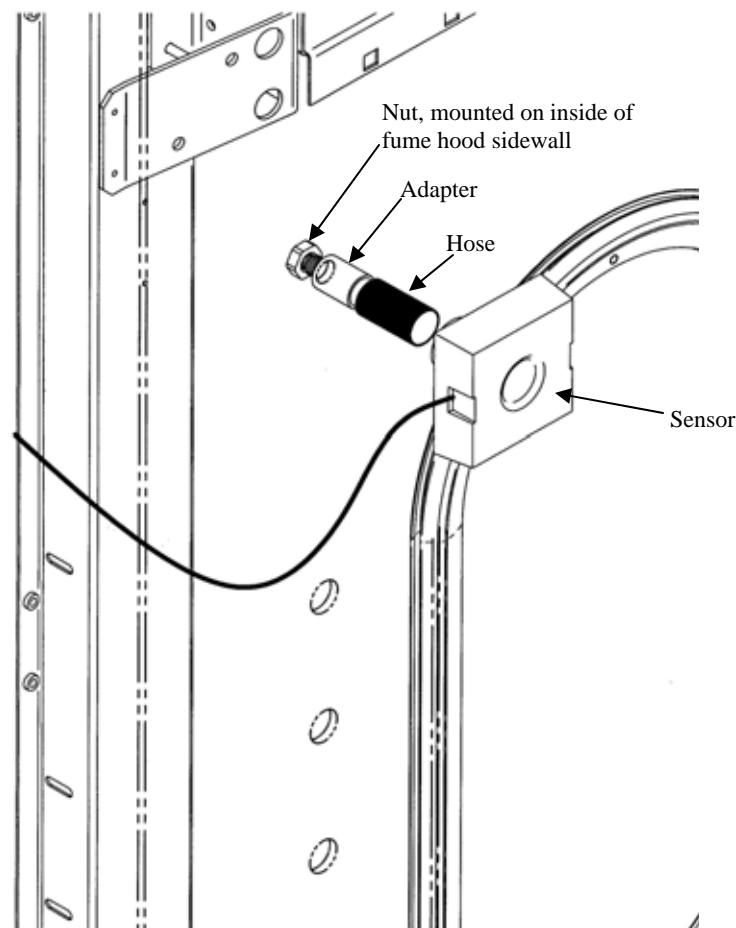

Figure 2
- a. Connect one end of the supplied sidewall adapter with nut included in your kit by removing the uppermost plastic plug from the 1/2" hole in the sidewall of the hood and replacing it with the adapter and nut. The nut is located inside the fume hood. See Figure 2.
- b. Cut 1.5" of the white hose (1.0" OD x .79" ID) supplied with your monitor. Connect one end of the hose to the sidewall adapter. See Figure 2.
- c. Connect the square air sensor to the other end of the white hose and be sure to connect the sensor cable from the air sensor to the back of the monitor. This completes the airway connection per Figure 2.